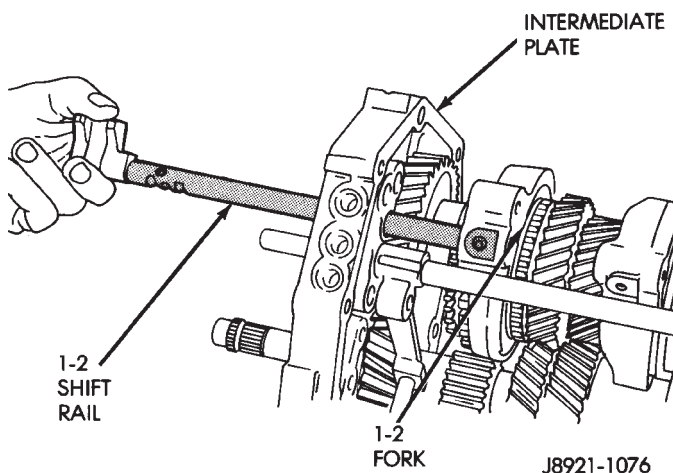

Fig. 46 Removing 1-2 Shift Rail
(6) Remove 1-2 shift rail from shift fork and intermediate plate (Fig. 46).